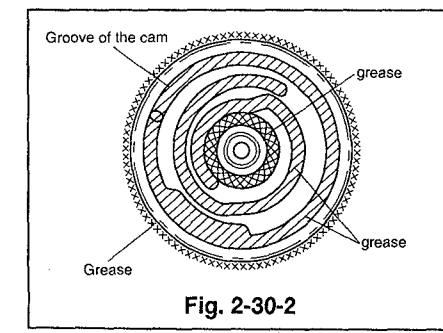

Fig. 2-30-2
- 1 Apply grease (G) [859D055O50] to the outside cogs, the groove of the cam and to the inside small cogs of the new main gear J. (Refer to Fig. 2-30-2.)